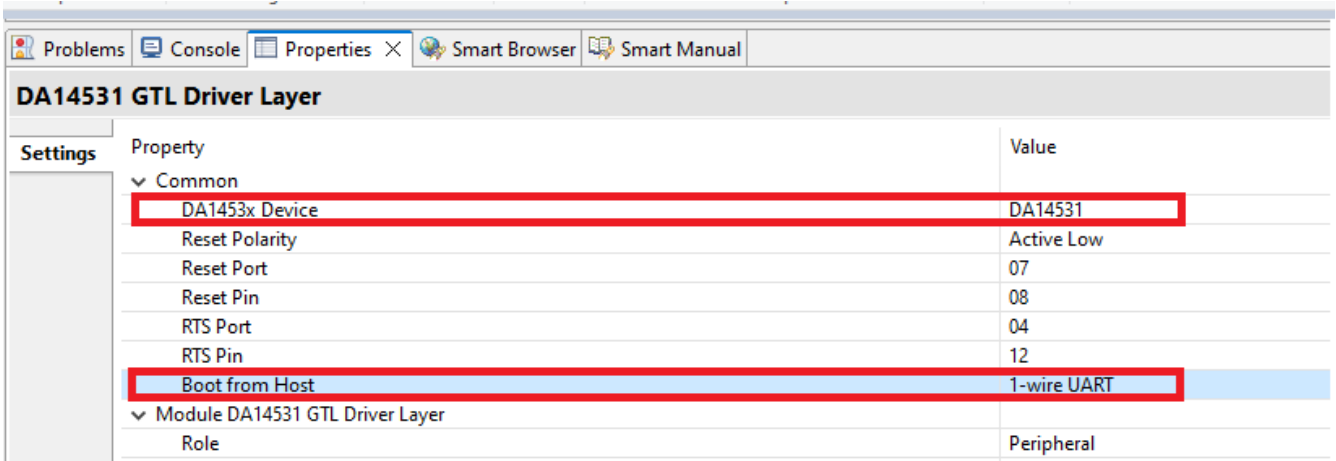

Figure 12. Pmod Pins Configuration for RA6M4-EK
- 12. Select **DA14531** under **Common > DA1453x Device** as shown in Figure 12.